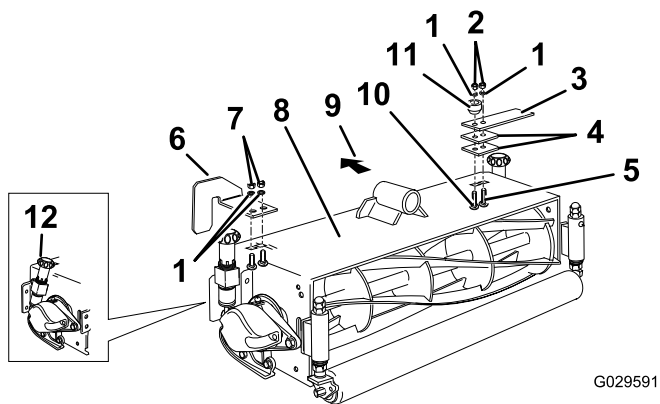

Figure 10
7. For 254 mm (10 inch) cutting units, fit the bump stop, 2 roller-box plates, and the roller plate to cutting units 2 and 6 (hydraulic-motor end) using 1 carriage bolt (M10 x 55 mm), 1 hex-head bolt (M10 x 90 mm), 2 locknuts (M10), and 2 washers (M10); refer to Figure 10.